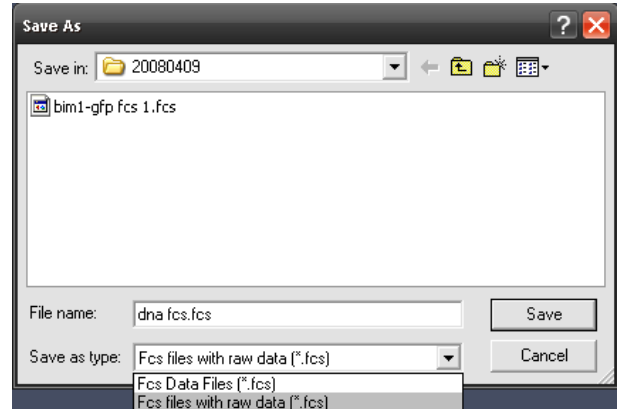

Fig. 99 Save Raw Data window
- **Save** allows you to save the whole data set (curves, fitting results, fit parameters, raw data) to a disk. If **Save** is pressed you will have the choice between **FCS data files (.fcs)** without raw data or **FCS files with raw data (.fcs)** attached by selecting the appropriate settings from the pull-down menu (Fig. 99).